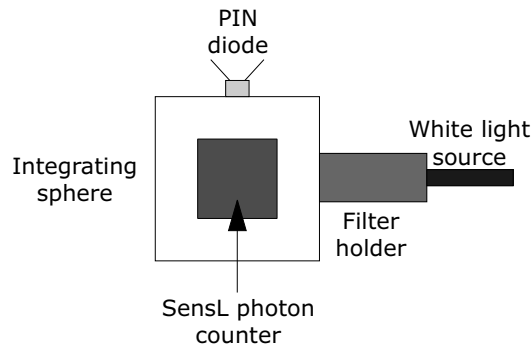

Figure 1: Experimental setup for active quench/reset photon counting.
- Connect the SensL photon counter, PIN photodiode and white light source to the integrating sphere as shown in Fig. 1. This places the photon counter in the dark. The room lights may be turned off for the measurements, to increase the darkness.